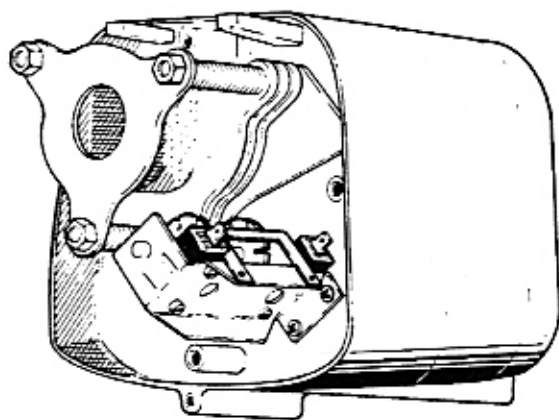

FIGURE 6-1. ELECTRICAL PANEL REMOVAL
- Remove electrical panel by removing three standoff screws. (See Electrical Parts, Figure 8-4. Figure 6-1 shows this area with panel removed.)